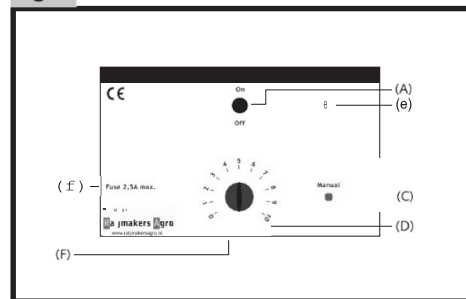

Fig. 7
The cover (Fig.7 (A)) also has a safetyfunction. When the cover is taken from the dosator, the dosator is switched of by the coverswitch (Fig.7 (B)). Never make a connection, without the coverswitch! It is very dangerous to get caught by the mixingwheel!
Never unscrew the protectioncover (Fig.7(E)), when the dosator is dosing or switched on. It is very dangerous to get caught between the wheels!
- The fuse in the dosator (Fig.7 (C)). When this is burned, replace a new one (2A).
- The coverswitch (Fig.7 (B)). This switch must switch correctly when the cover is put on and off the dosator. Check for dust, dirt and if the switch switches correctly.
The round plug with cable that is connected to the controlpanel, must be plugged in the socket (Fig. 7 (D)).